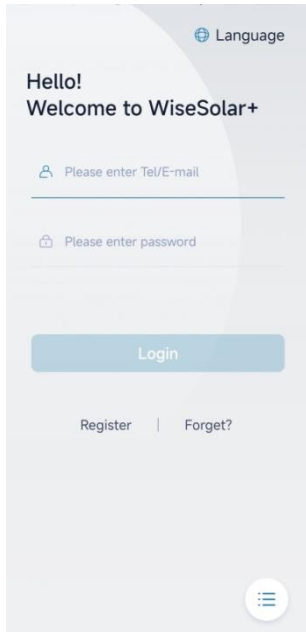

Figure4-1 Login page
Step 3 After registering, login according to the registered **mobile phone/Email** and **password**, as shown in Figure4-1.